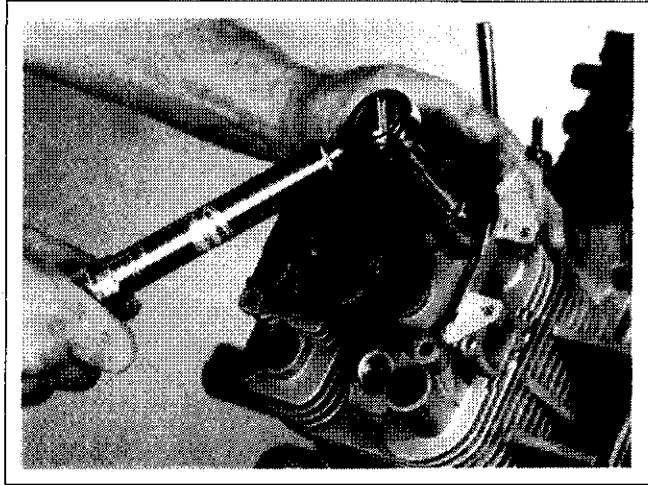

Figure 11-37. Tighten Cylinder Head Fasteners in Sequence and to Torque Specified.
4. Install the cylinder head and start the four hex. flange screws. See Figure 11-37.